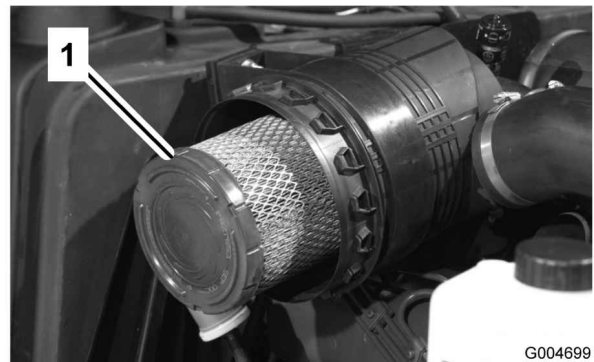

Figure 46
2. Before removing the filter (Figure 46), use low pressure air (40 psi, clean and dry) to help remove large accumulations of debris packed between outside of primary filter and the canister. Avoid using high pressure air which could force dirt through the filter into the intake tract. This cleaning process prevents debris from migrating into the intake when the primary filter is removed.